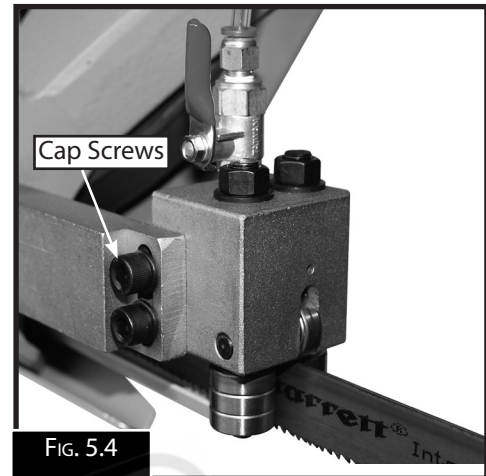

FIG. 5.4
4. Loosen the cap screws (Fig.5.4) and adjust the blade guide housing so the back of the blade just touches the bearing, making sure the guide housing is not tilted.